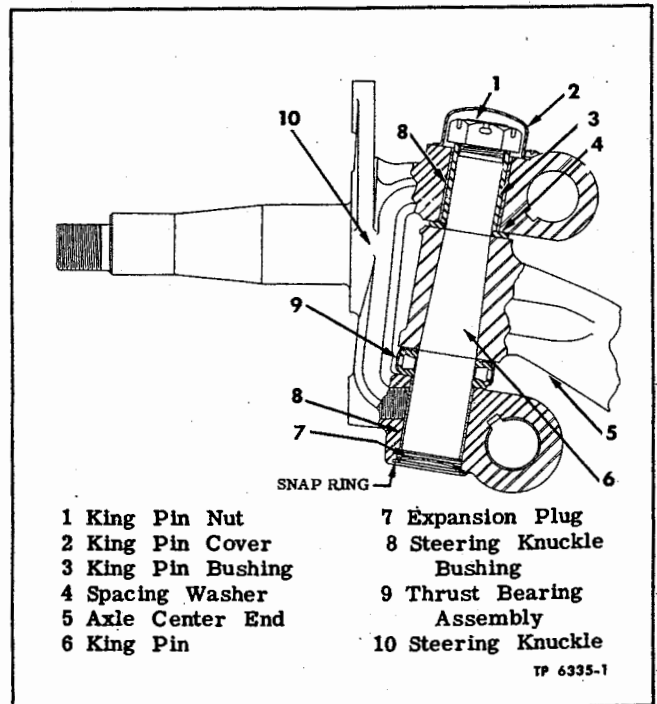

Figure 2—Steering Knuckle Assembly
Front axle assembly is Reverse Elliott type. Axles are equipped with steering knuckles constructed as shown in figure 2 or 3.
Steering knuckles (fig. 2) are supported on solid king pins which are tapered at center section to fit snugly in tapered holes in axle outer ends. Nut installed at threaded upper end of each king pin, locks king pin bushing (3, fig. 2) against spacer (4, fig. 2) and secures king pin in axle. King pin nuts are secured by cotter pins.
assemblies (9, fig. 2). Covers and plugs (2 and 7, fig. 2) exclude dust and moisture from knuckle bushings and serve as lubricant seals. Steering knuckle bushings can be replaced when necessary. Stop screws installed at each end of axle center limit turning angle of front wheels.
8. Periodic inspection should be made at steering knuckles to determine if excessive up-and-down movement of knuckles on king pins exists. Since excessive pounding will damage thrust bearing (9, fig. 2), the up-and-down movement of steering knuckles must be kept within prescribed limits. Shims for use in reducing clearance are available.
7. Remove lock ring from knuckle lower yoke, and remove plug (7, fig. 2). Remove nut from top of king pin, then using large brass drift, drive king pin out of axle and knuckle.
8. Remove knuckle and thrust bearing and spacing washer from axle. King pin bushing (3, fig. 2) will remain in knuckle upper yoke and can be lifted from yoke as soon as king pin is removed.